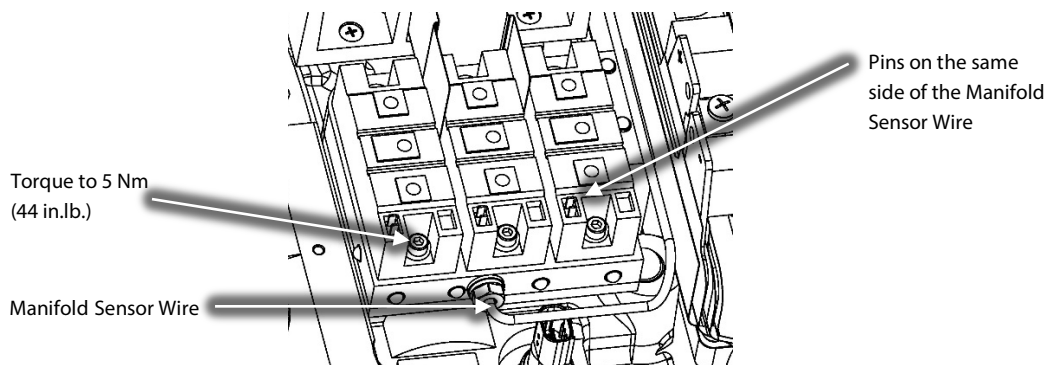

Figure 28 – SCR Orientation
14. Install the diodes on the SCR Cooling Manifold and torque to 5 Nm (44 in.lb.). The diode pins should be on the same side of the Manifold sensor wire. Refer to Figure 28 (SCR Orientation).